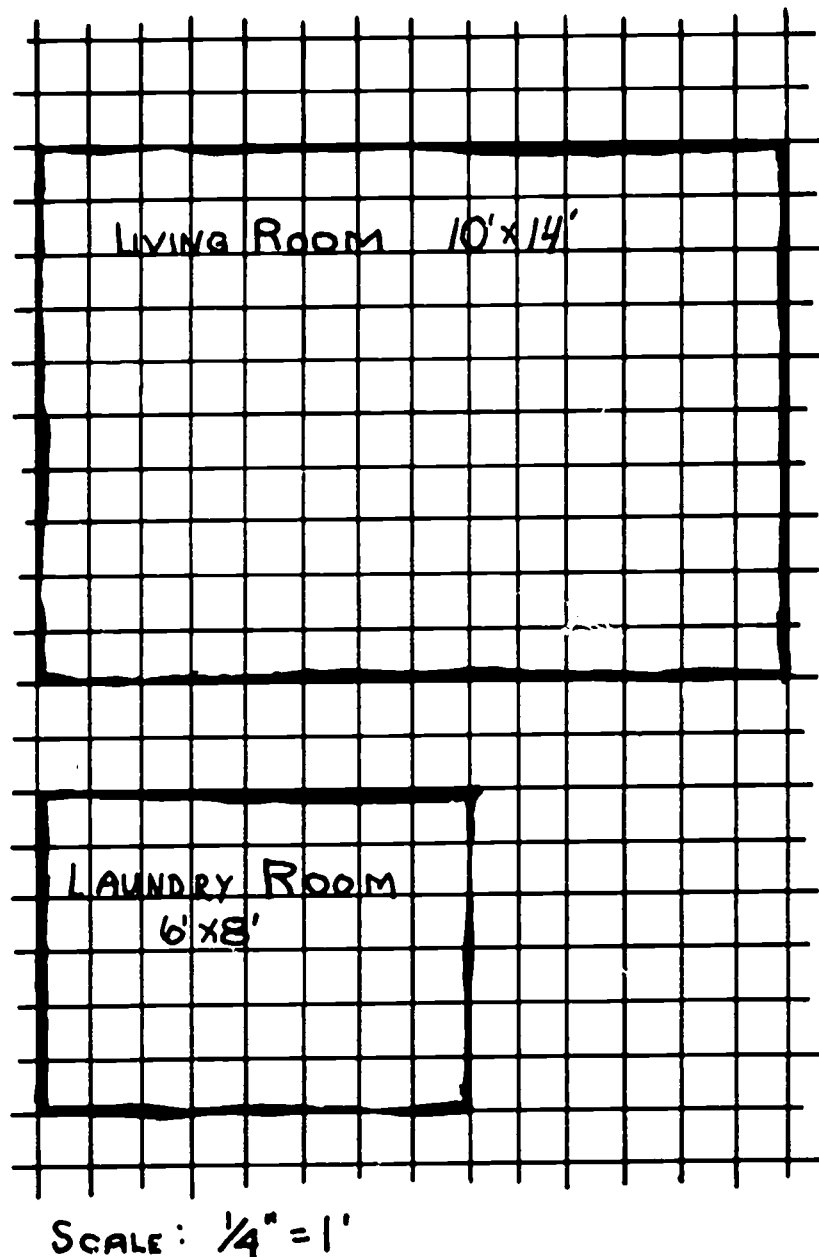

Fig. 78A-1. Rooms Sketched and Identified
1. On the grid paper, sketch one of your rooms to scale. Let each ¼" square represent 1 square foot of floor area. For example, suppose that you have decided on a living room that measures 10' x 14'. Figure 78A-1 shows a room of this size blocked out, freehand, on ¼" grid paper.
2. Record the name and size of this room as in Fig. 78A-1.